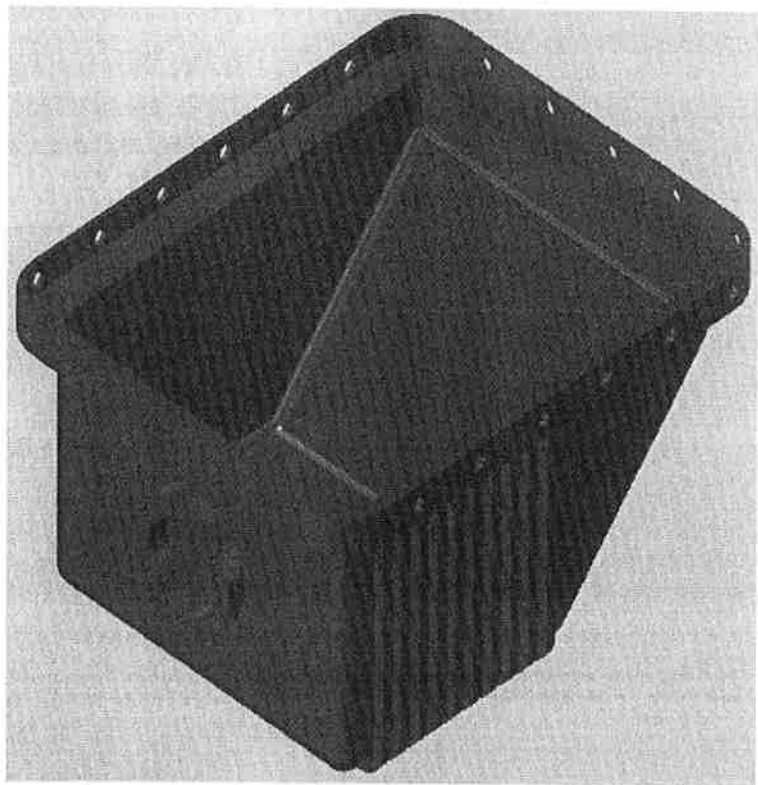

Figure 13-25
12. Complete the pattern. The model should display similar to that shown in Figure 13-25